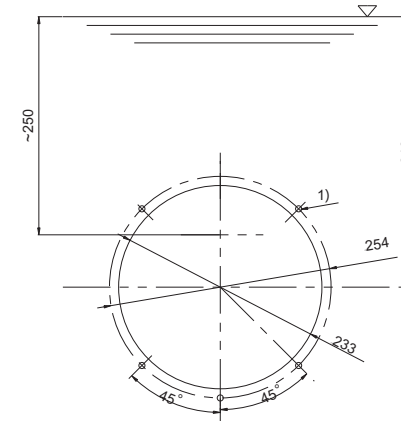

Figure 1
- a) Use 4 screws(M6\*20) to fix the counter current jet plate to the pool wall hole. ( Figure 1)